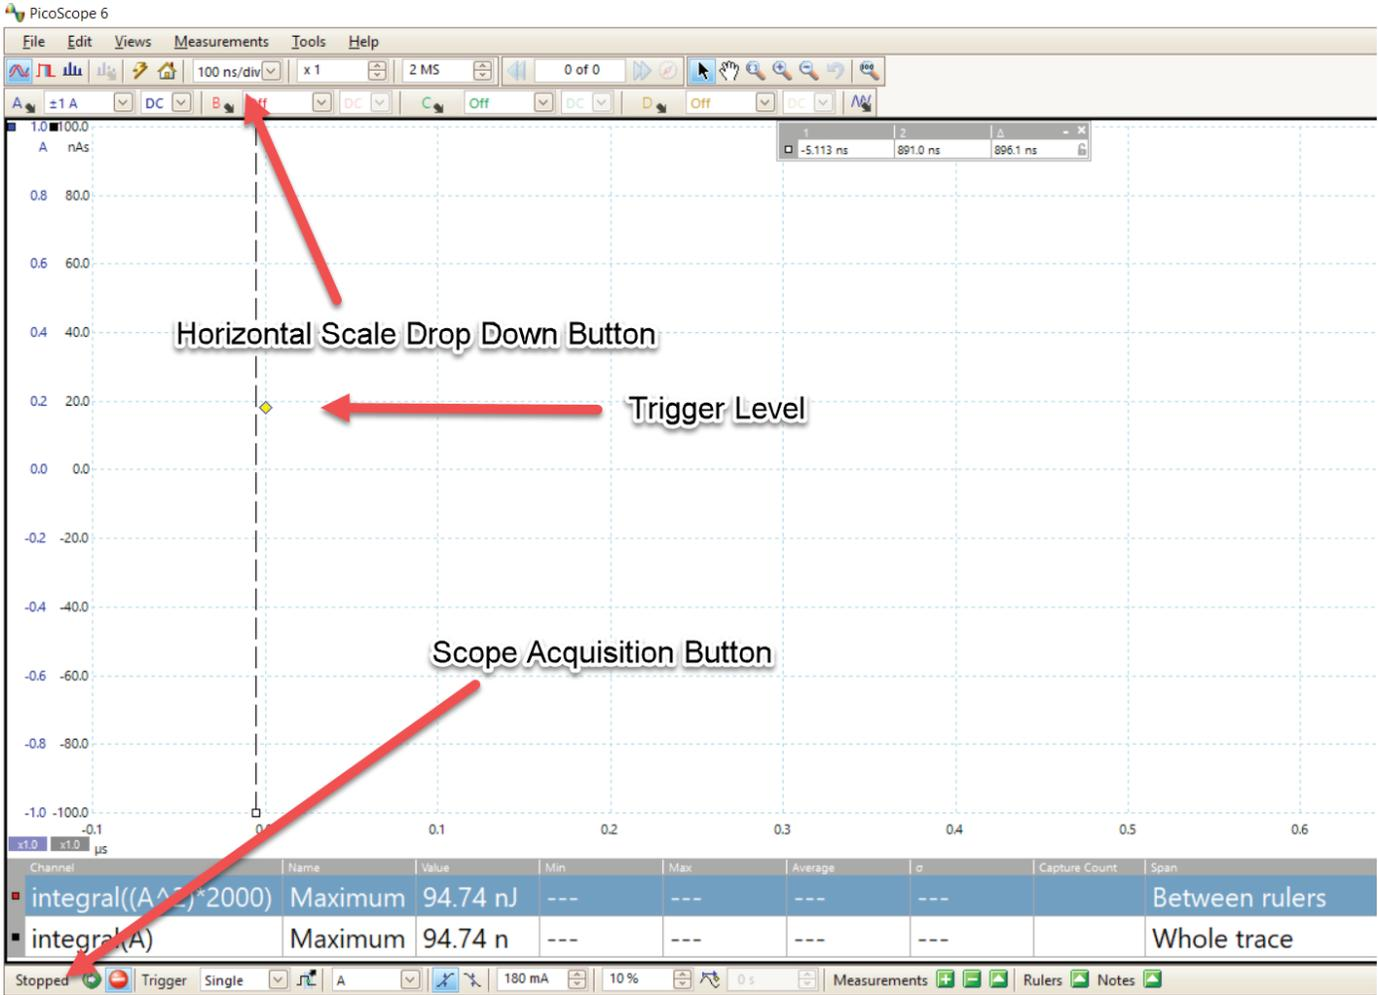

Figure 7: Screenshot of the PicoScope software with the “Waveform Verification Setup file” open.
- J. In the PicoScope software, if needed, move the yellow trigger icon above the scope's zero line (0.2A) on the left vertical scale (Figure 7).
- K. Ensure that the scope horizontal scale is set to 100 ns per division (Figure 7).
- M. Click the “Stopped” button at the bottom left hand portion of the screen to place the scope in “acquisition” mode. The wording “Stopped” will change to “Running” (Figure 7).
- I. Click the “Stopped” button at the bottom left hand portion of the screen to place the scope in “acquisition” mode. The wording “Stopped” will change to “Running” (Figure 7).